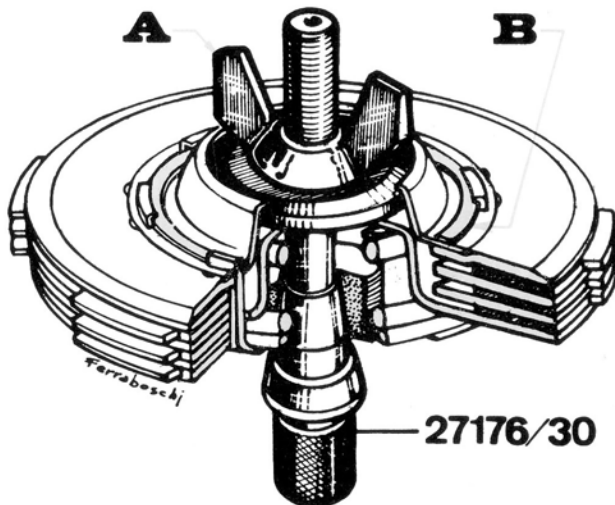

Fig. 27
- To dismantle the clutch unit, it is necessary to proceed as follows, using tool 27176/30 shown on fig. 27.